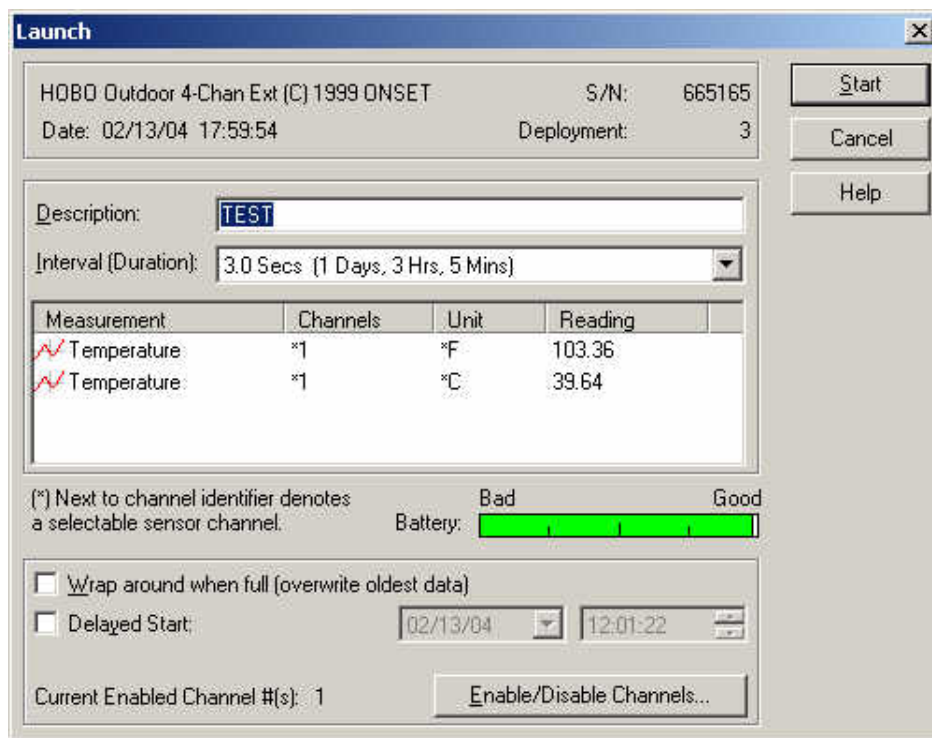
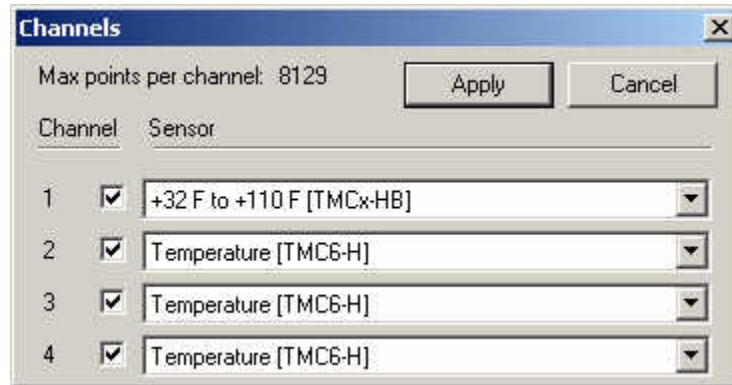

Fig. 2
Fig. 3 Enabling Channels
- The program will connect and a page similar to Fig. 2 should appear. Enter an appropriate name for the program for “Description”. The sampling interval can also be changed from here from the drop down menu “Interval (Duration)”.
11. Click **Enable/Disable Channels...** a menu similar to Figure 3 should appear. Check Channel 1 and uncheck any other channels that may be active. Use the drop down menu to choose the correct device that you plugged into the channel. For this case it should be “+32 F to +110 F [TMCx-HB}”. Click **Apply**. This should return you to the previous page which should now be updated, similar to Fig. 2